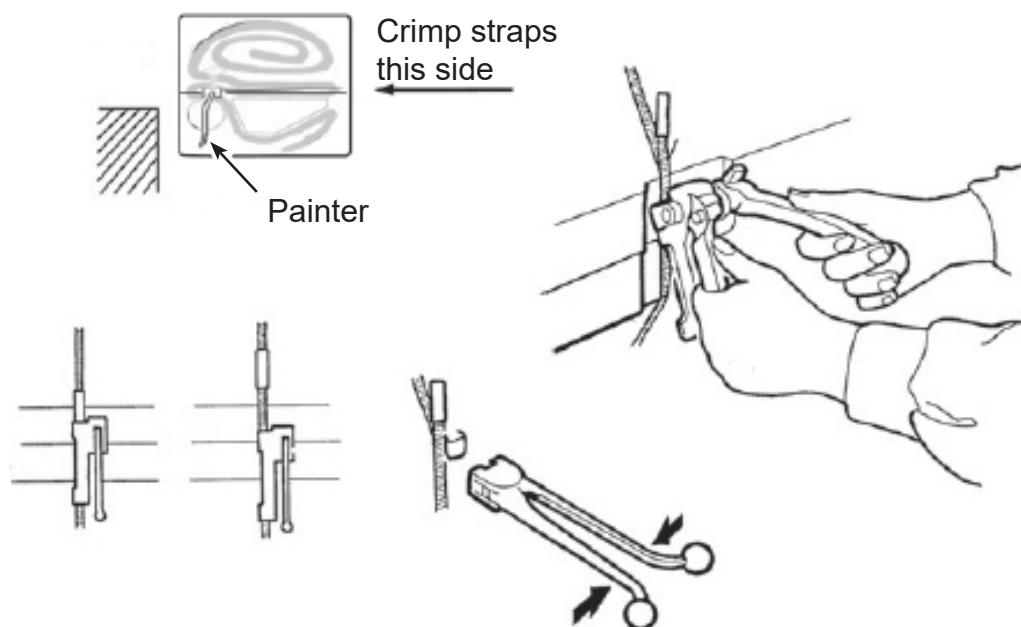

FIGURE 899U
- 9.57 Adjust the ends of each strap so that the outer most strap end is facing upwards and is approximately 25 mm (1") above the rim of the container. Refer to **Figure 899U**.
9.58 Apply the tensioning tool to the strap at a point half way across the container join. Operate the handle to tension the strap until the base of the tensioning tool rests in the lower container rim. Refer to **Figure 899U**.
9.59 Safety the strap with a crimp. Refer to **Figure 899U**.